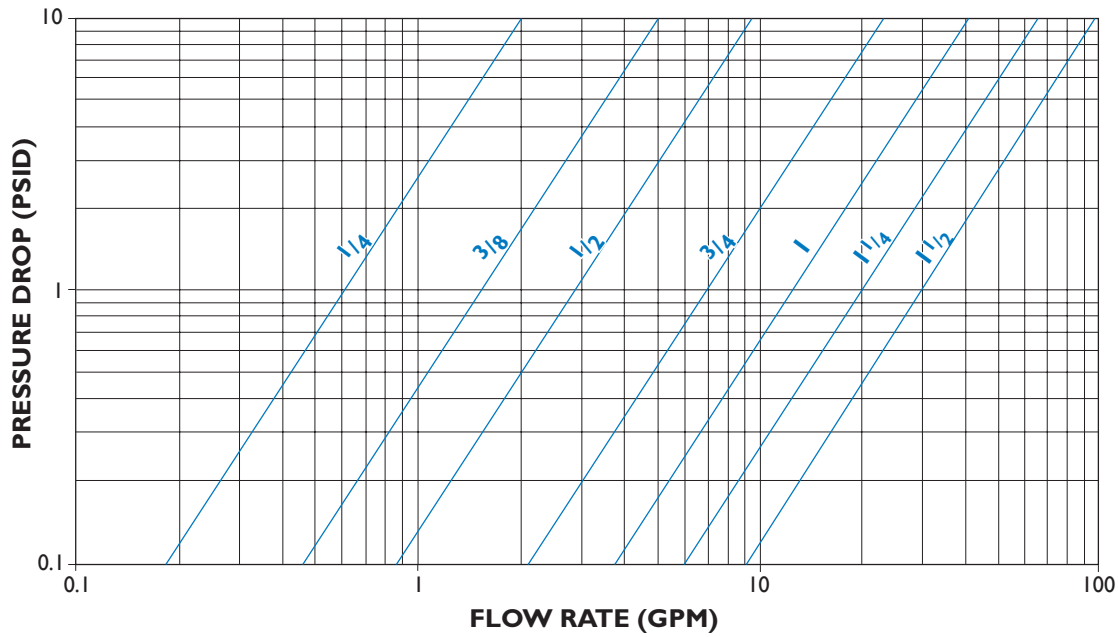

FIGURE 1
*Multiply values obtained from figure 1 thru 4 by the appropriate values shown below
A) Using figure 1 the pressure drop is determined to be 1.0 psid with RPA's standard screen.
- Using figures 1 or 2 determine the pressure drop (P1) through the strainer with water flow and standard screens.
- Using Chart #2 multiply P3 by the appropriate Component Factor (CF) to get P4.
- Multiply P4 by the appropriate Body Loss Factor (BF) in Chart #3 to get P6.